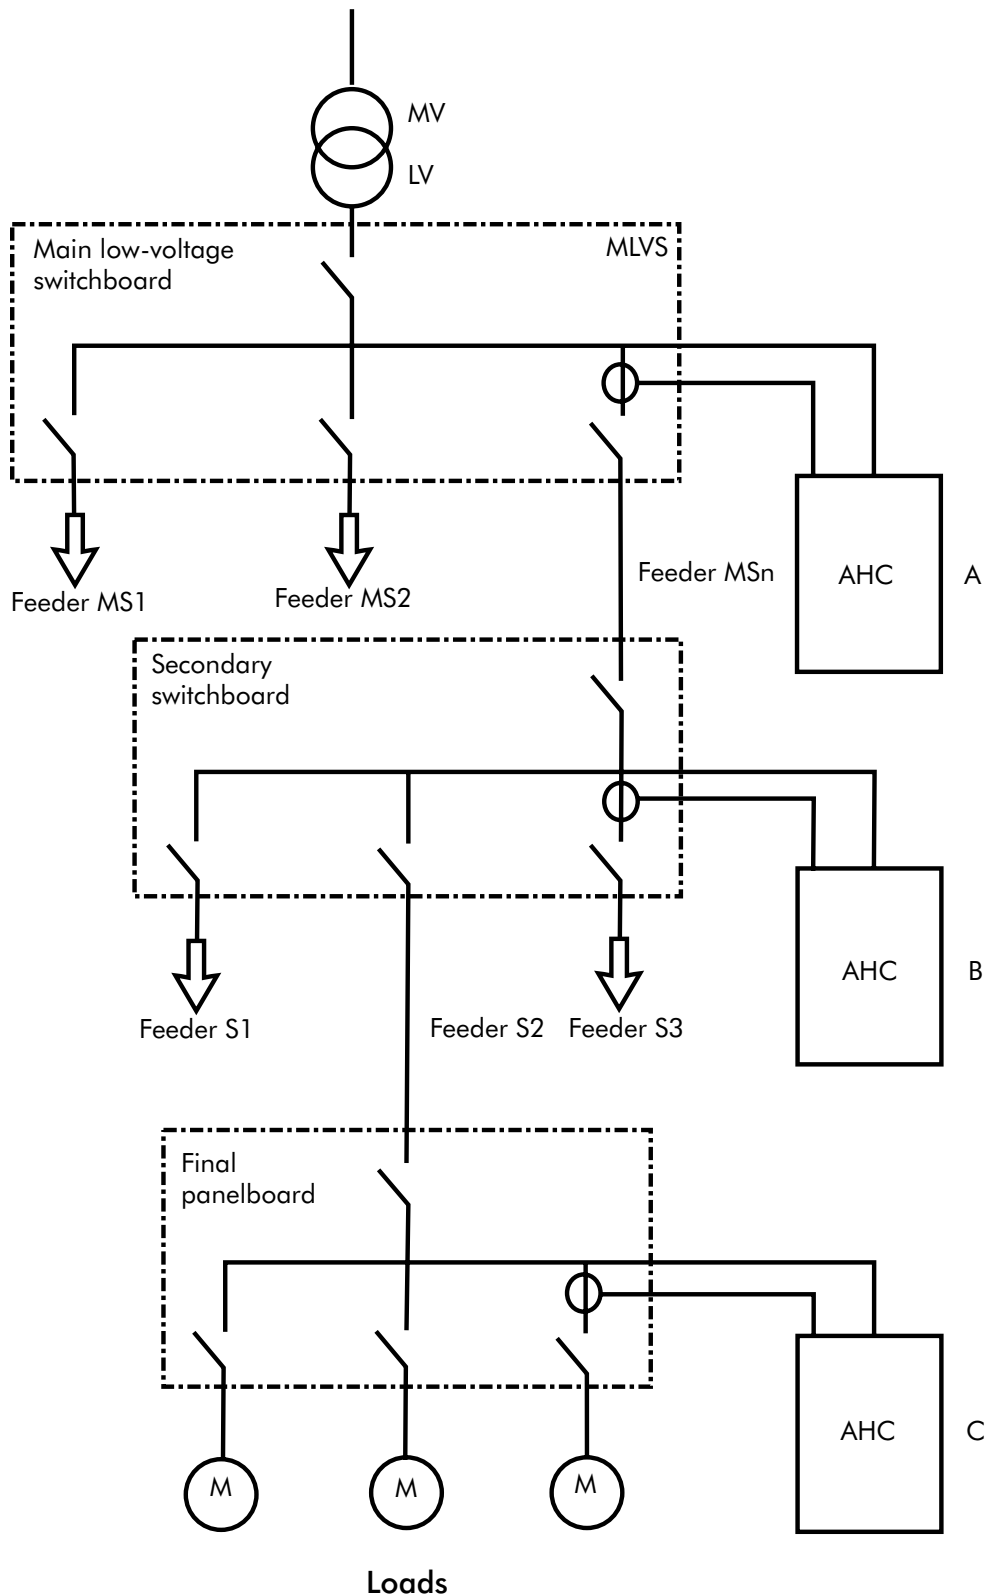

Figure 5 - Three level radial distribution system showing possible connection points for an AHC
- ◆ Centrally, at the point of common coupling (PCC), for global compensation of harmonic currents (Figure 5, position A)
- ◆ Partial compensation of harmonic currents (Figure 5, position B)
- ◆ Close to the polluting loads to ensure local compensation of harmonic currents (Figure 5, position C)